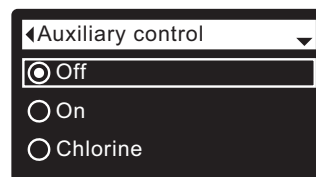

FIG. 86
7. Press the SELECT (O) button to display the Auxiliary control menu (See Figure 86).
8. If the desired option already has a black dot next to it (See Figure 86), go to Step 9. Otherwise, press the DOWN (▼) or UP (▲) buttons to scroll to the desired option, then press SELECT (O) to choose it.